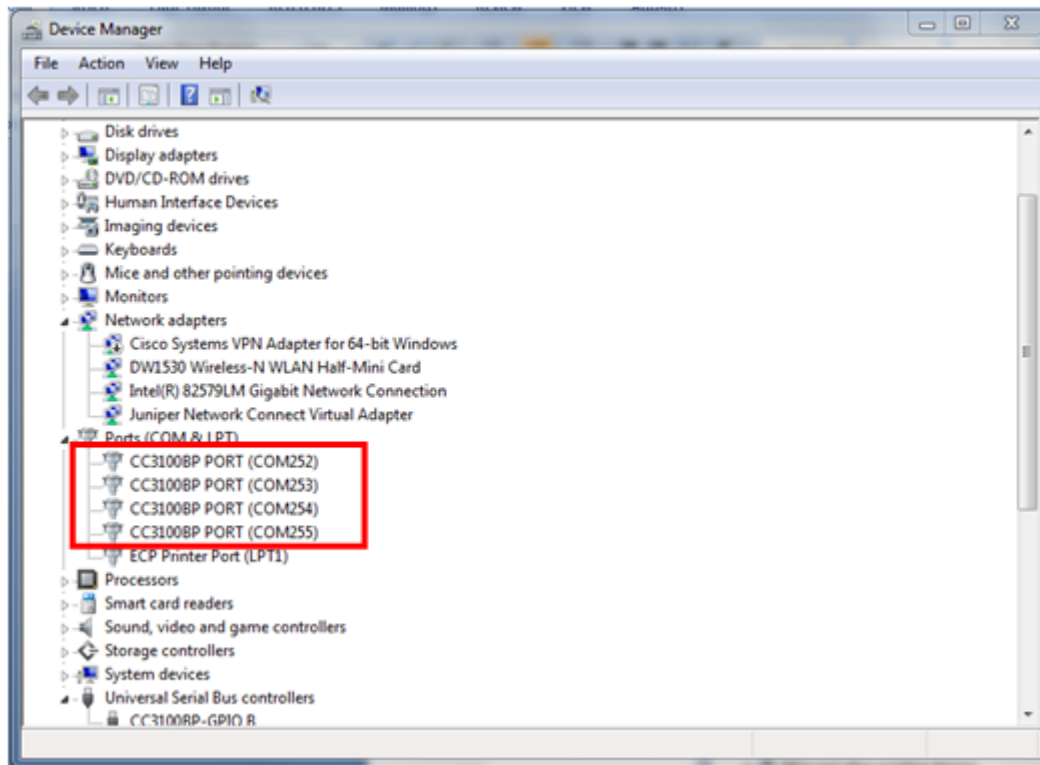

Figure 4. Device Manager
5. The CC3100BOOST will now be visible in the Device Manager as shown in Figure 4. The user may see two COM ports instead of four.